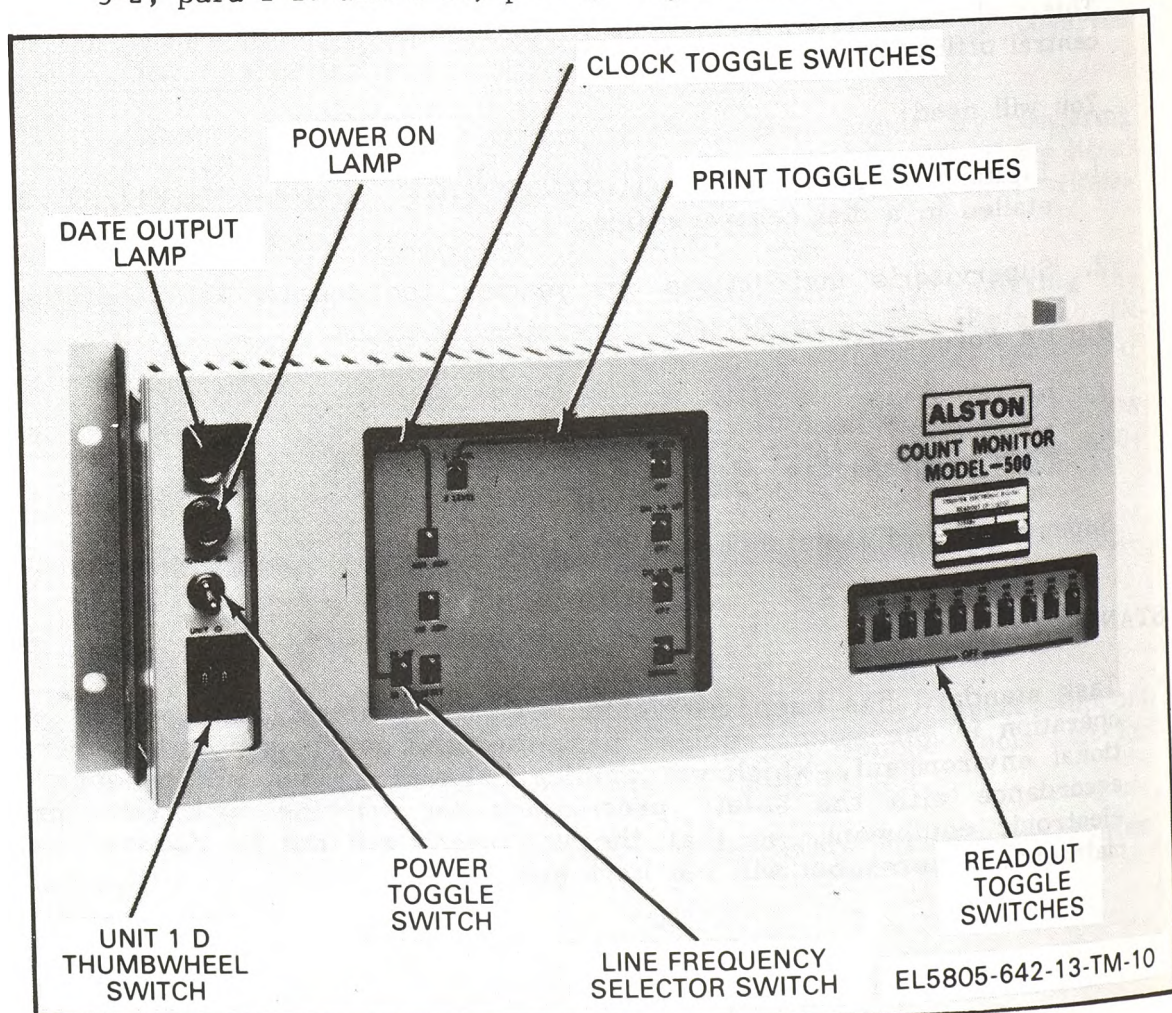

Figure 1. Operator's Controls and Instruments,
2. Examine the counter to insure that all controls are set at the preliminary settings. (Refer to TM 11-5805-642-13, para 3-3, p 3-2; para 2-13 and 2-14, p 2-7, fig 1 below.)
Set the POWER switch at ON. (Illumination of the POWER ON indicator lamp demonstrates proper functioning.) (Refer to TM 11-5805-642-13, para 3-4b thru 3-4c, p 3-2, fig 1.)
Momentarily depress and release the PRINT/MANUAL key. (Starting of the teletypewriter unit motor (if the MOTOR CONTROL terminals are connected or an idle line motor control is in use) and illumination of the DATA OUTPUT yellow indicator lamp during printout are indications of normal functioning. The printout which will normally result can be evaluated by comparison with the characteristics listed in TM 11-5805-642-13, paragraph 3-4e, page 3-3. (Refer to TM 11-5805-642-13, para 3-4d thru 3-4e, pp 3-2 and 3-3, fig 1.)
Depress and hold the PRINT/MANUAL key (if a header only is desired or if the printout of the selected registers is to be stopped). (The key will be held until a header has been printed, approximately five seconds.) (Refer to TM 11-5805-642-13, para 3-4f thru 3-4g, p 3-3, fig 1.)
a. Check the programing of the automatic periodic buffer transfer and inactive buffer printout. (Refer to TM 11-5805-642-13, para 3-4h, p 3-3, fig 1.)